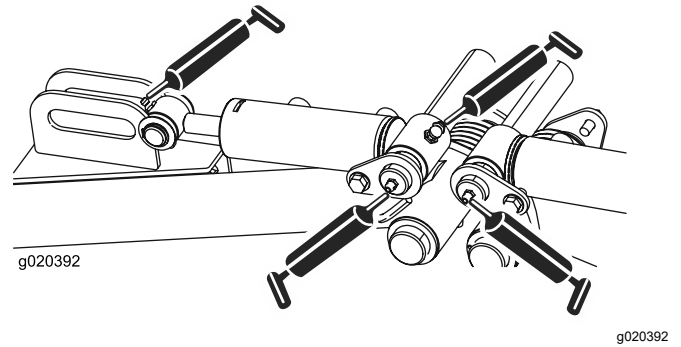

Figure 47
- Rear lift-arm pivots and lift cylinders (3 each); refer to Figure 47.